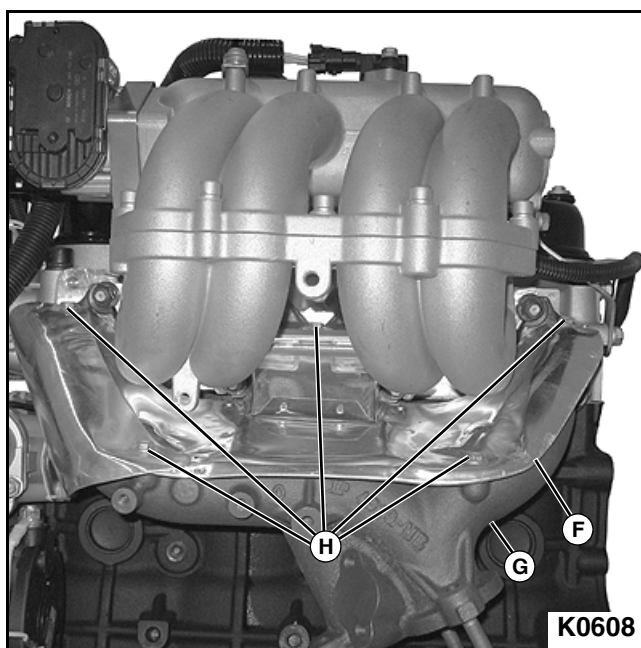

Figure 3-62
4. Install heat shield (F) to exhaust manifold (G) with five mounting bolts and flat washers (H). Tighten bolts. **See Figure 3-62.**